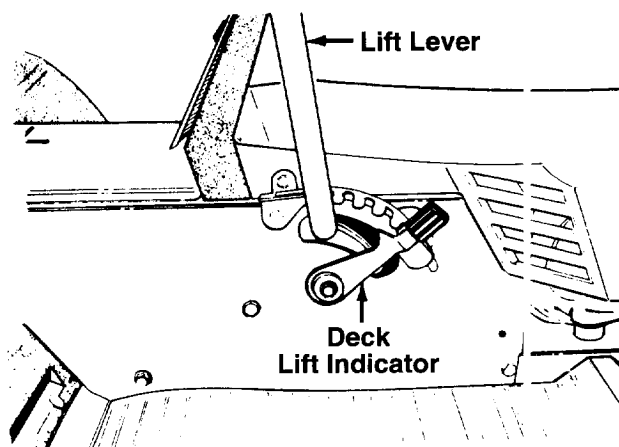

FIGURE 10.
**NOTE:** The lift lever **must** be in the **BLADES OFF** position when starting the engine, when shifting into reverse and if the operator leaves the seat. See figure 10.
The deck lift indicator marks the position being used for the lift lever. Select the lift lever position desired, press the indicator lever outward, move it to the position immediately below the lift lever and release the indicator lever. See figure 10.